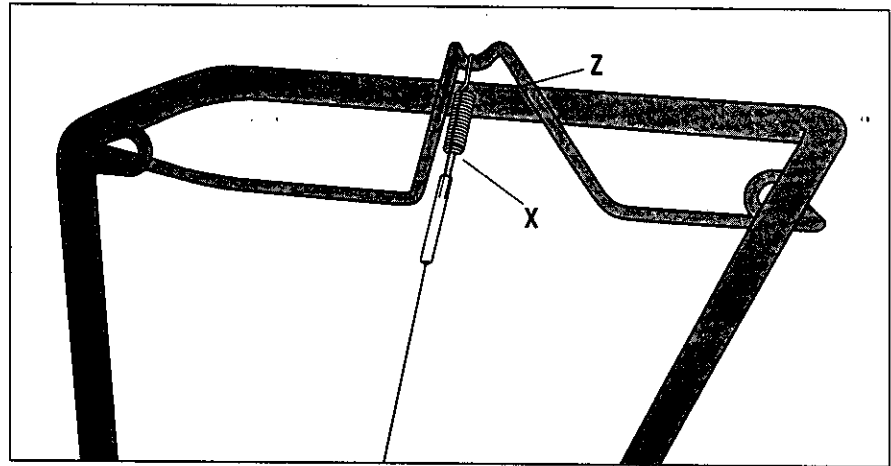
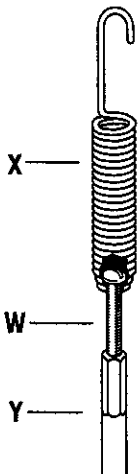

Figure 2-5: Installing forward clutch cable.
Figure 2-4:
4. Insert the #10-24 x 2" slotted hd. screw (W, Figure 2-4) into the cable spring (X).
5. Thread the screw (W) into the cable adjuster (Y).
6. Hook the cable spring (X) into the "V"-shaped bend in the forward clutch bail (Z, Figure 2-5).